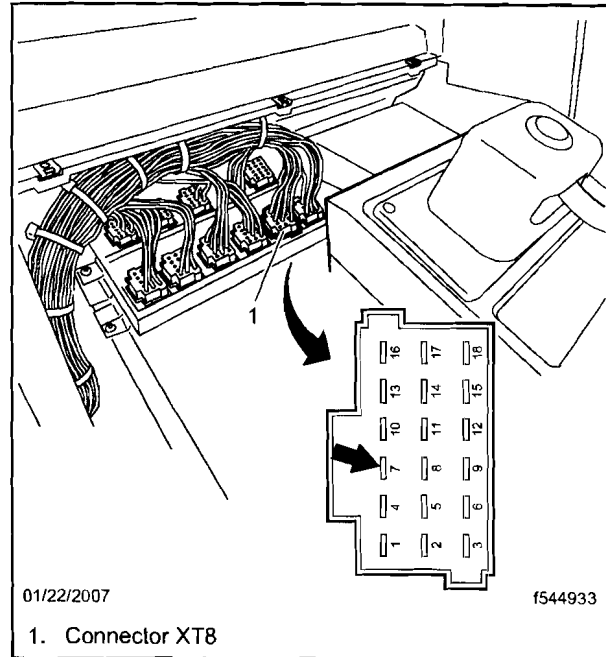

Fig. 16, XT Interface Connectors
14. In the bank of XT connectors, disconnect connector XT8 (second connector in, looking from the passenger's side). See Fig. 16.